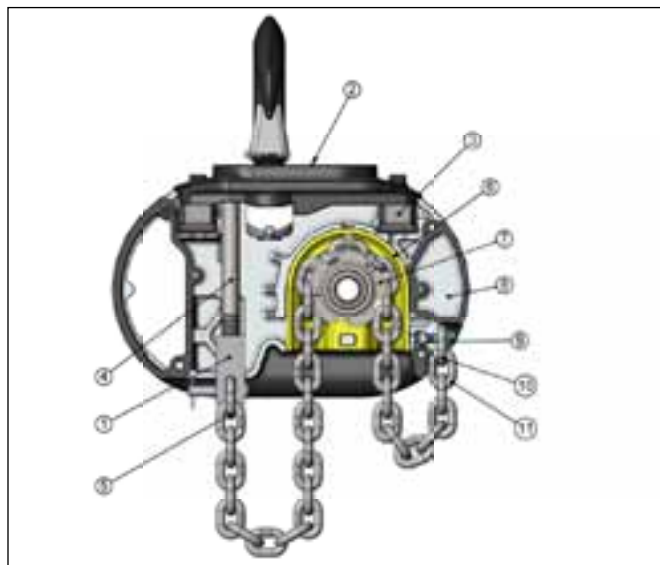

Figure 7. Attaching Load Chain Double Reeved Models
Remove the hook suspension, (2) suspension screws, (1) dead end pin, (1) washer, and (1) cotter pin from the packaging. It should be noted that the suspension includes a dead end bolt and block for supporting the dead end of the load chain as shown in Figure 7. Place the suspension assembly into the recess on top of the hoist. The dead end block should project through the bottom of the hoist with the pin hole and slot aligned to the underside of the hoist as shown in Figure 7.
The dead end of the load chain is temporarily positioned (a few links from the end) by a wire tie. Do not remove this tie before attaching the chain to the dead end block. (See Fig.7).
The Double Reeved Units are shipped with the dead end of the load chain temporarily connected to the bottom of the hoist by a wire tie (1) as shown in Figure 7. The wire tie is located a few links from the end of the chain, and it should not be removed until the chain is to be attached to the dead end block (2). To attach the chain to the dead end block, proceed as follows:
2. The hoist is shipped with the dead end of the load chain temporarily positioned a few links from the end by a wire tie (1) as shown in Figure 7. Do not remove this wire tie until the chain is secured.